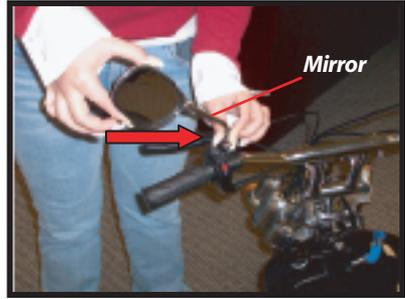

Fig. 2
1. Attach mirrors by inserting threaded end of the mirror into each brake lever assembly nut approximately ½ way. Slide the tightening nut down and secure by turning clockwise. (Fig. 2)